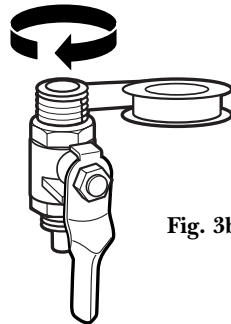

Fig. 3b
4. Using white thread sealing tape provided, apply approximately 9 wraps of tape around the large threads on inlet valve (F) in a clockwise direction, as shown in Fig. 3b.